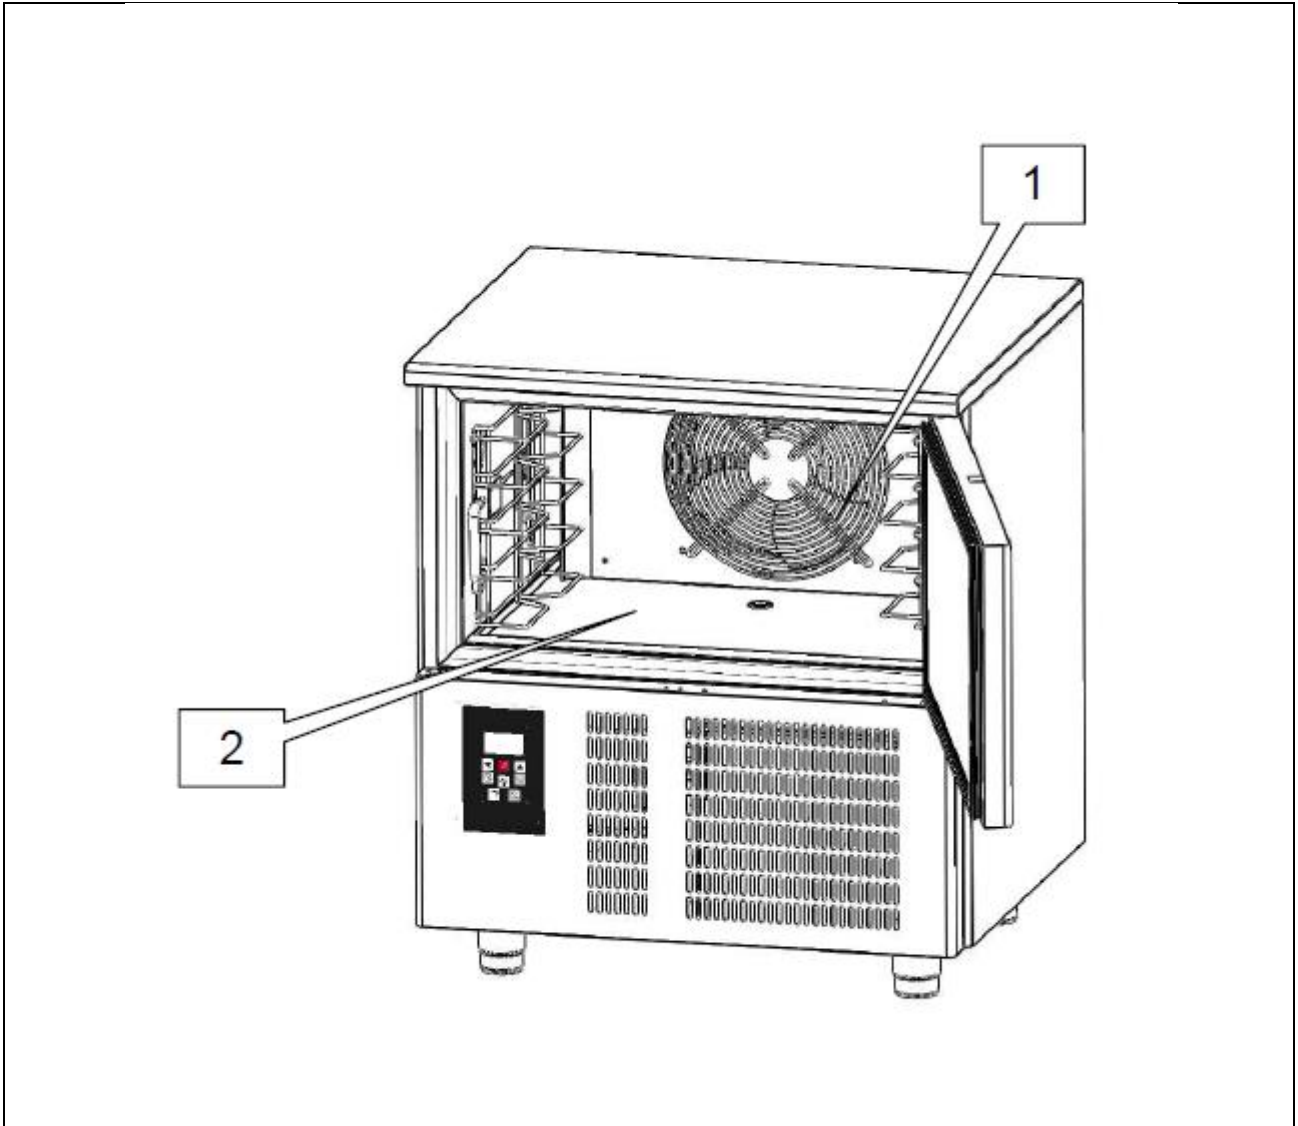

Fig. 4
- with obstructed air ducts (ref. 1 fig. 4);
- with the food to be processed placed against the ventilation grilles (ref. 1 fig. 4), air ducts or on the cabinet floor (ref. 2 fig. 4).